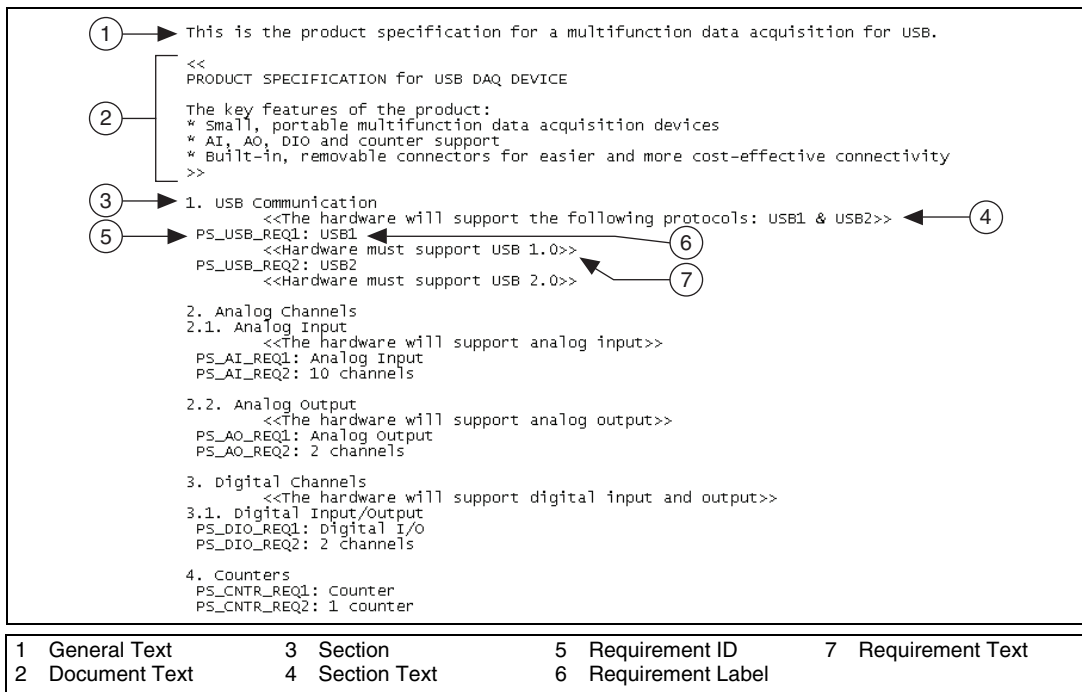

Figure 2-5. ProductSpec.txt Document
1. Right-click the **Product Specification** document on the tree view pane and select **Navigate** from the context menu. Requirements Gateway displays `ProductSpec.txt` in the external application associated with `.txt` files for your computer, as shown in Figure 2-5. The default application for Windows is Microsoft Notepad.